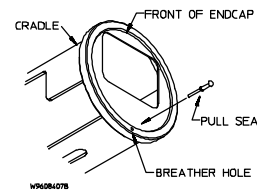

Figure 23: Inserting the Pull Seal
3. Insert the "long end" of the pull seal into the breather hole starting from the front side of the endcap. See **Figure 23**.